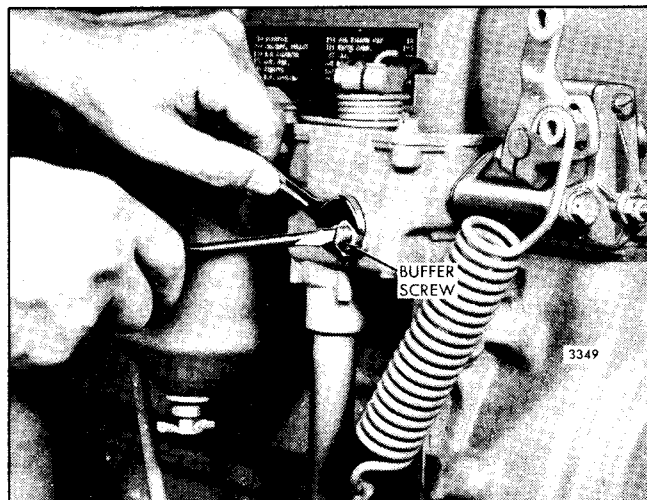

Fig. 7 – Adjusting Buffer Screw
1. With the engine running at normal operating temperature, turn the buffer screw in (Fig. 7) so that it contacts the differential lever as lightly as possible and still eliminates engine roll. *Do not increase the engine idle speed more than 15 rpm with the buffer screw.*